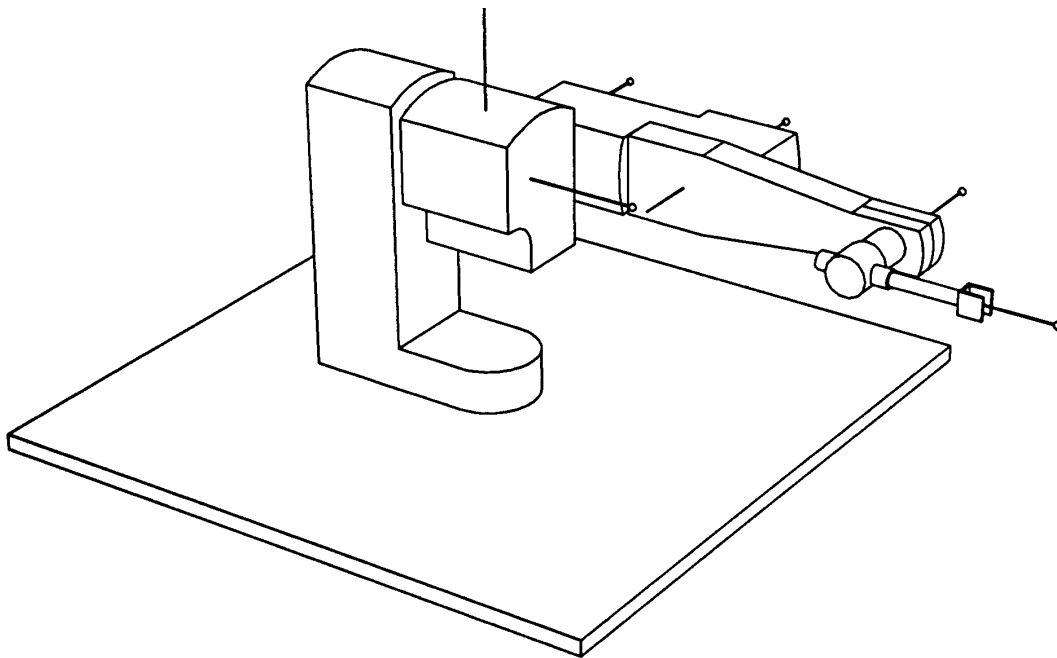

Fig. 2
- b. The *Intelledex* robot is a six-axis manipulator with all rotational joints. The first three axes intersect at a common point. Fig. 2 is a schematic diagram of the Intelledex robot showing the six rotational joint axes (indicated by the line segments protruding out of the links). We wish to solve the inverse kinematics of the position problem for this robot.